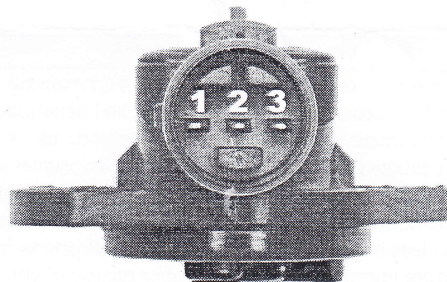

Figure 1
1. Using a digital multi-meter (DMM), take a measurement of the electrical resistance between pins 1 and 2 shown in Figure 1. Record the value.